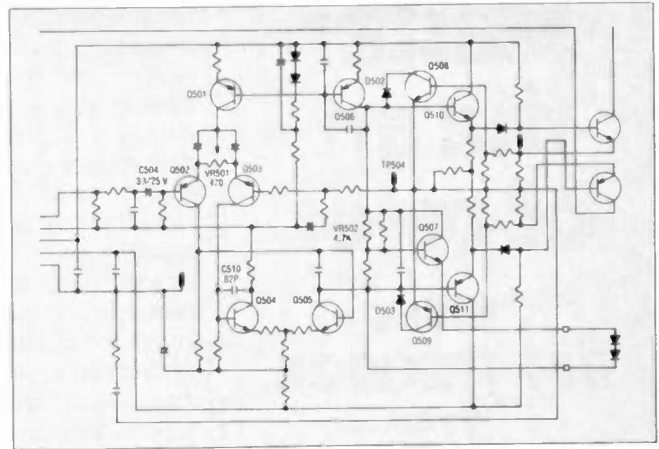
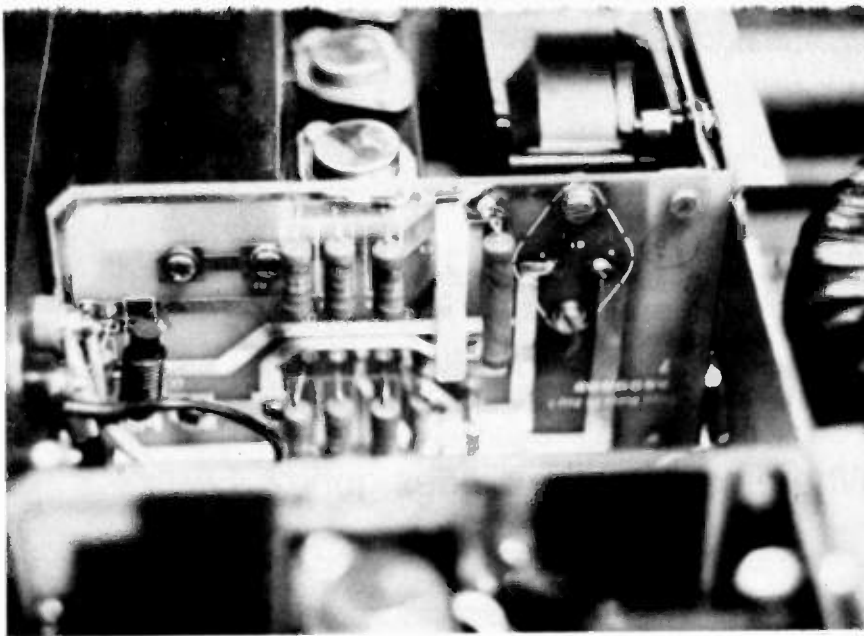

Fig. 5 Typical direct coupled driver stages for a moderately high power output stage.
Fig. 6 This circuit board mounts the individual emitter resistor for each of the paralleled output transistors.
Next, we look at the driver boards. This is the heart of the amplifier. The driver board is direct coupled to the output stage and usually trouble on one means trouble on the other. (See Fig. 5.) Shown is an excellent example, for it contains most of the commonly used circuitry. There are several important functions of a driver circuit other than the amplification of the input signal.
undamaged. One of those devices could be partially damaged from the original fault and go into "second breakdown" after initial run-up, which would surely cause a second repair equal to the first. It is not worth sacrificing reliability for the cost of one or two more transistors. Assuming the output stage is now repaired, switch the variable ac supply on and slowly increase the line voltage until approximately 50% of full supply. Watch for excessive primary supply current and overheating. If either of these two conditions occur, reduce your supply voltage to the point at which input current is reasonable or switch off the power and reassess; you may have overlooked something obvious. While running at 50% of the supply, it should enable you to make all necessary dc voltage measurements. Firstly, check for an excessive amount of dc on the center point or speaker terminal. In this case, that would be test point 504 (see Fig. 5). If an excessive dc voltage is present, its source could be a defective output device, driver device (Q511 and Q510), or defective differential amplifier, here being Q502 and Q503. To help find just which device is causing the problem, determine the dc polarity. This should point directly to either the PNP side or the NPN side of the driver board. On this driver board (Fig. 5), you are able to make small dc offset voltage adjustments by varying VR501. This pot is found across the two emitters on the input or differential amplifier. A defective bias transistor or bias pot, here Q507 and VR502, could cause overheating of the output stage. If this occurs, switch the amplifier off and replace the bias transistor.
it is necessary to look at both the output stage and driver boards together. After replacing all of the defective devices and checking all of the remaining ones, run your supply up slowly to 100%. Try to pass a 1Khz signal. Watch for premature clipping on one side of the wave. This would also indicate a dc offset voltage present on the speaker terminal. If this is the case, a driver, buffer or output transistor could be breaking down under load, yet check out properly in the quiescent state. When this occurs, a great deal of supply current is drawn and this may blow supply line fuses or actuate any current limiting or shutdown circuits. To help establish just where the current is being sourced, use your digital volt meter and check for excessive voltage drop across any of the output emitter resistors (see Fig. 6). If this does not reveal the source, check the driver transistor currents while passing a signal. It may be necessary to defeat any current sensing circuits in order to find the defective device (see Fig. 5). Here disconnect one end of D502 and D503. This will disable transistors Q508 and Q509. Remember that you will lose any driver or output stage current limiting, so slowly run the amplifier back up to one-half supply only. Again, refer to Fig. 5. Transistor Q501 serves as a constant current source for the input amplifier. Insure that this device is not damaged.
3) Over current shutdown. (See Fig. 5.) This is probably the most widely used form of protection. The transistors involved are Q508 and Q509. If a specific value of resistance is placed in series with each base (Q508 and Q509) and the center point, networks R and R'; any increase in output current would cause a proportionate voltage increase across the resistance. This value of resistance is set so as to cause 600mv on each base at maximum specified output current. Q508 and Q509 then become conductive bypassing current from each driver transistor Q510 and Q511. In actuality, both driver bases are pulled together and the output stage current is severely reduced.